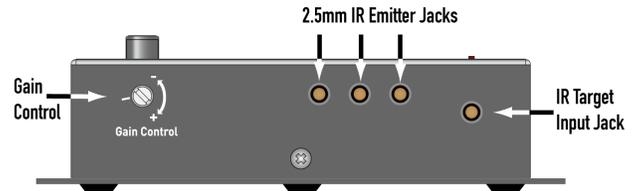

Figure 4
- The RCA jack has an associated Gain Control on the bottom of the module (see **Figure 4**), which can be used to adjust the amplitude of the line-level audio signal entering the Single Source Input. This is useful because the strength (amplitude) of line-level output signals often varies among audio components. By simply adjusting the gain of each signal (in a multi-source system) you can achieve a balanced level among audio sources, ensuring consistent minimum and maximum volume in every room regardless of which audio source is selected.